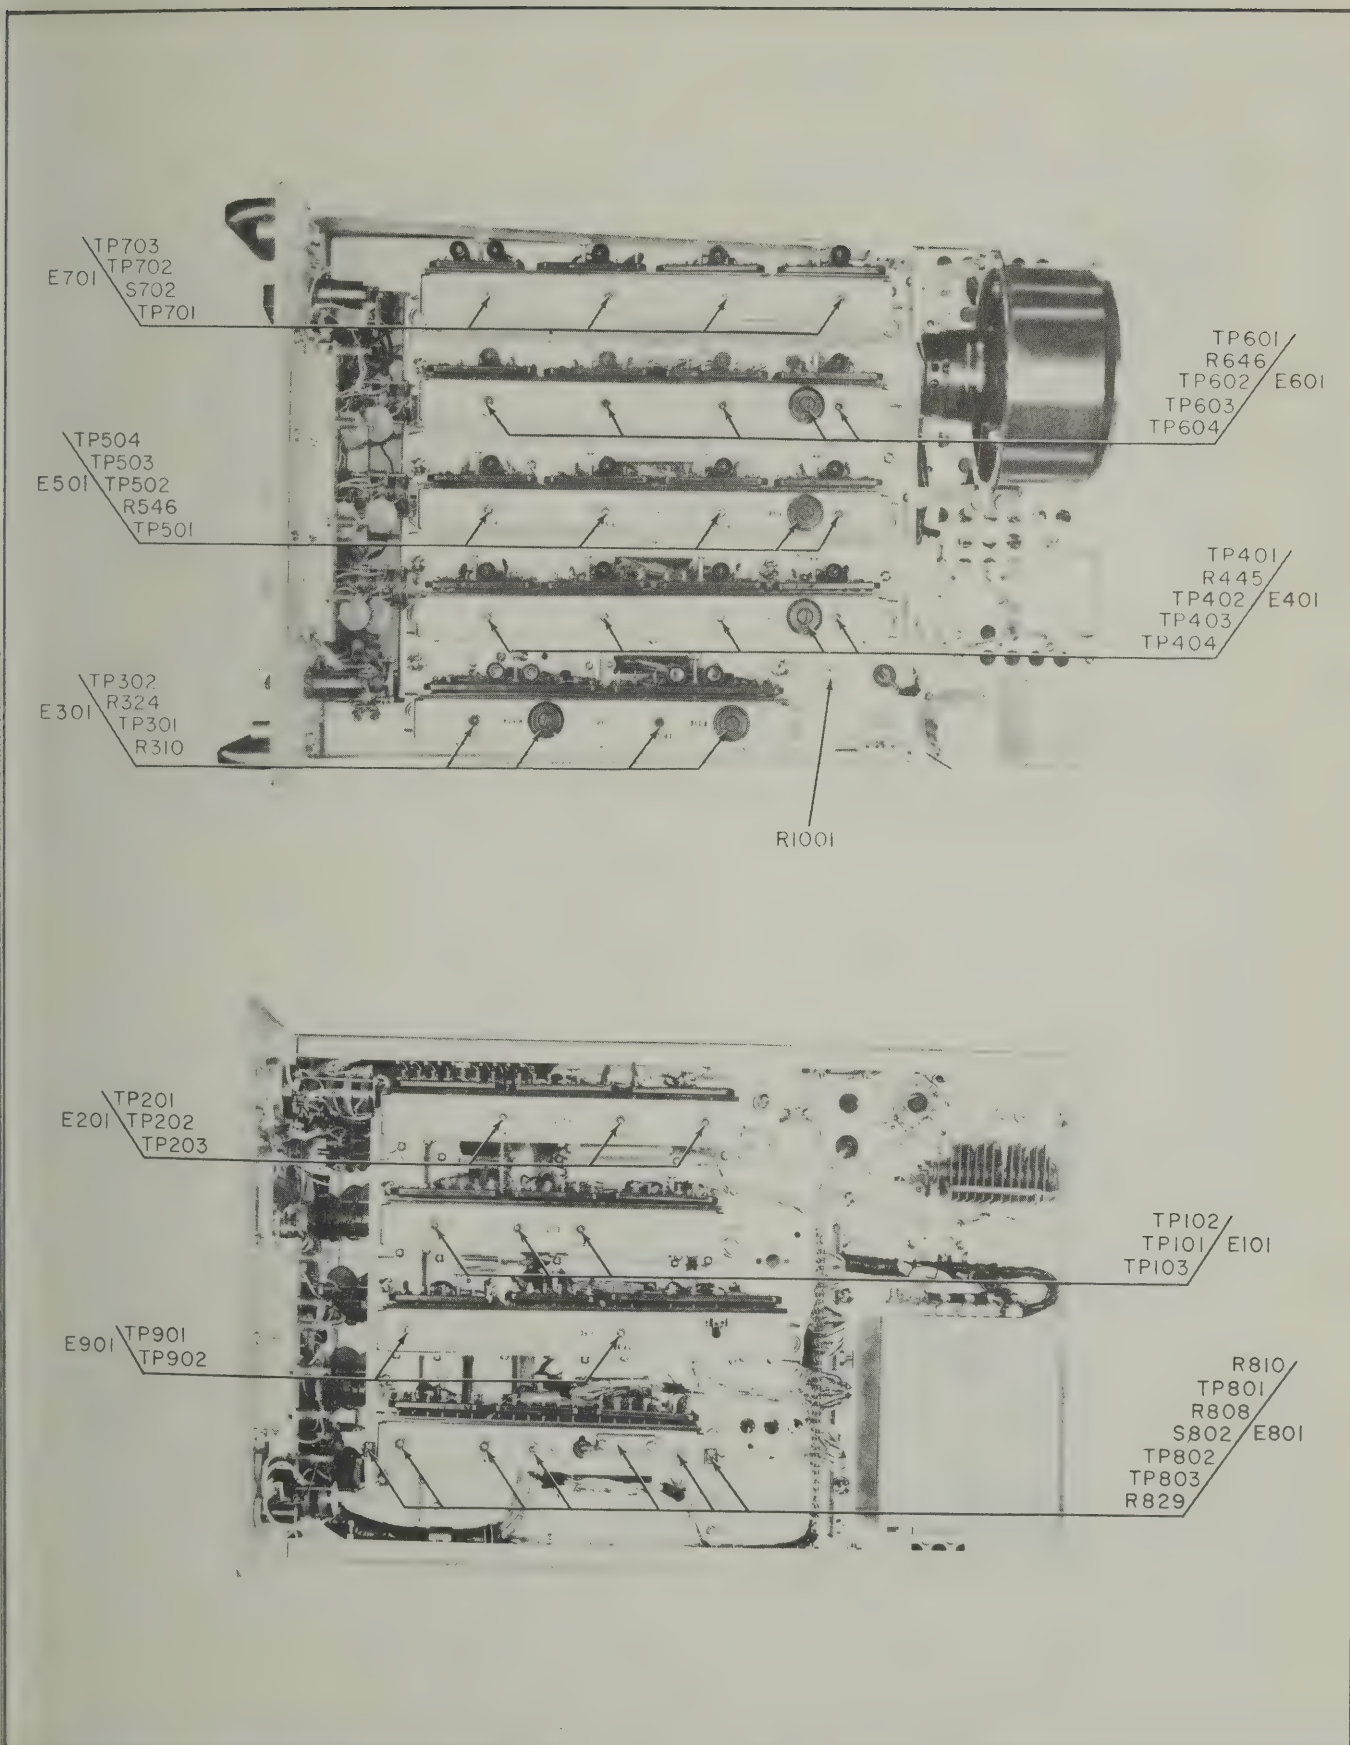

Figure 5-2A. Top and Bottom Chassis Views, TS-573A/UP
*b.* DATA PROVIDED. — To assist in trouble-shooting the equipment, refer to the servicing block diagram figure 5-37, the schematic diagram 5-38, and the wiring diagrams figures 5-14 through 5-36. The simplified diagrams figures 2-1 through 2-9 may help in understanding operations of the circuits and their analysis. However, when trouble-shooting with the test scopes, refer to the typical waveforms illustrated in figures 5-4 sheets 1 through 4, and to the servicing block diagram figure 5-37. Use the schematic diagram, and voltage layout diagrams 5-5 through 5-13 for detailed analysis and voltage checking at pertinent points. The wiring diagrams will come in handy when circuit-checking for continuity, an open, a short, or a grounded connection. The 573A/UP calibrator, chassis wiring, service block diagram, and schematic diagrams are shown in figures 5-36A, 5-37A, and 5-38A, respectively. Block diagrams for oscilloscope checking of test points are shown in figure 5-4A sheets 1, 2, and 3. Chassis photographs are shown in figures 5-2A and 5-2B. For the TS-573B/UP, the chassis wiring, service block diagram, and schematic diagrams are figures 5-36B, 5-37B, and 5-38B, respectively. Typical waveforms are illustrated in figure 5-4B, sheets 1, 2, 3, and 4. Male and female board wiring diagrams, for which one illustration exists, are the same for all three calibrators. Where three illustrations exist for the same board wiring diagram, all CHANGE 2 figures refer to the TS-573A/UP calibrator; CHANGE 3 figures refer to the TS-573B/UP calibrator.